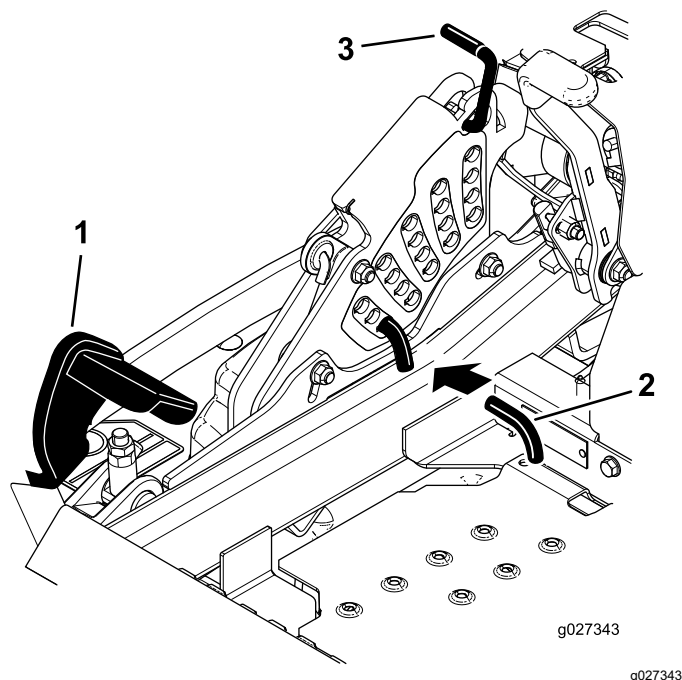

Figure 116
5. Push the deck-lift pedal all the way forward and the deck latches at the 14 cm (5-1/2 inch) transport position (Figure 116).